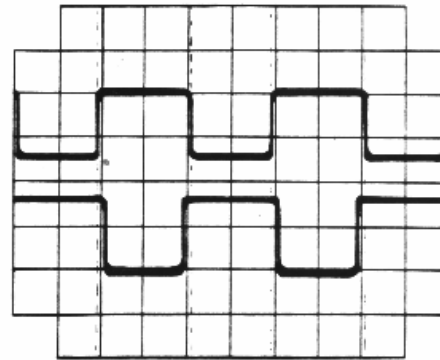

Fig. 5
Fig. 5 respectively.
- Pulse pile-up as described in paragraph 4.4 "Final stage, check of activation" (see Fig. 5).